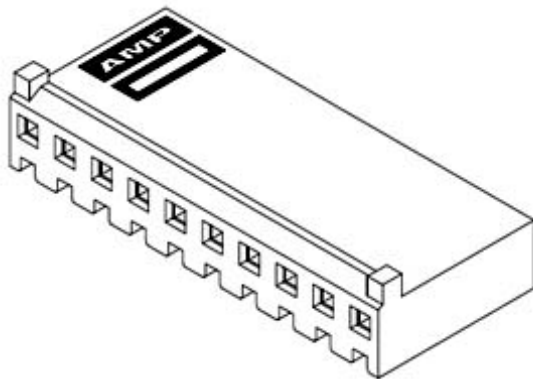

Figure 1 – 10-pin Inline plug
2. The hardware bag in the unit control box includes these (2) wiring harness jumpers:
3. These (2) unit provided jumpers will be field connected to the 10-pin plugs (see Figure 1) on the MicroMetl Jade W7220 wiring harness.